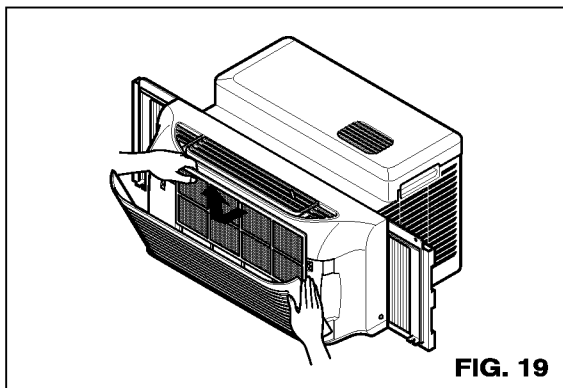

FIG. 19
- Pull the inlet grille forward, grasping both tabs, then pull out the air filter. (FIG. 19)